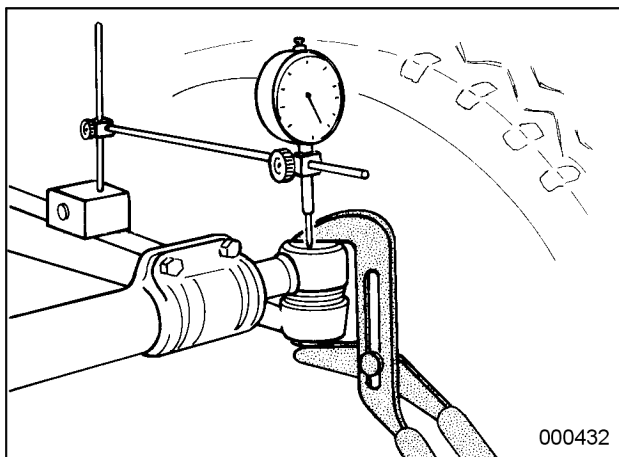

Figure 3: Set-up to check axial play
7. To check joint for play - Figure 3